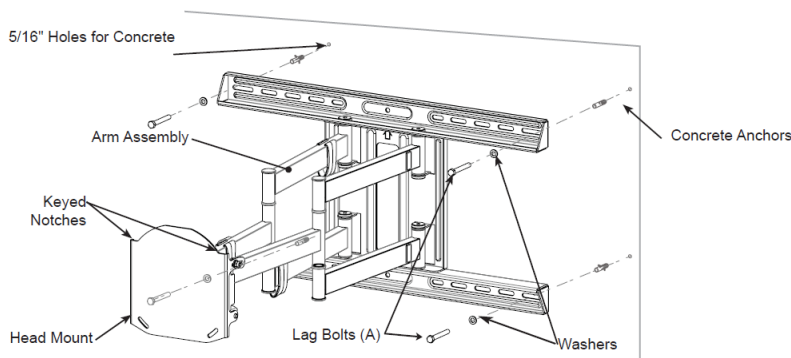

Figure 1
5. Drill holes (Figure 1):
1. If needed, hammer concrete anchors (C) into wall (Figure 1).
2. Apply washers (B) to lag bolts (A).
3. Hold Arm Assembly in place while applying lag bolts (A) with washers (B).